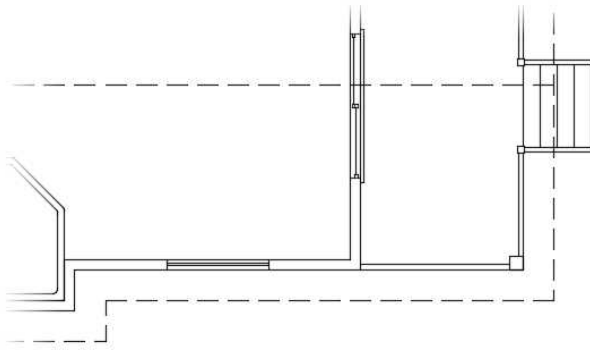

FIGURE 8.7: Preparing to create title text by setting your view
2. Use the Zoom and Pan tools to make your view similar to the one shown in Figure 8.7.